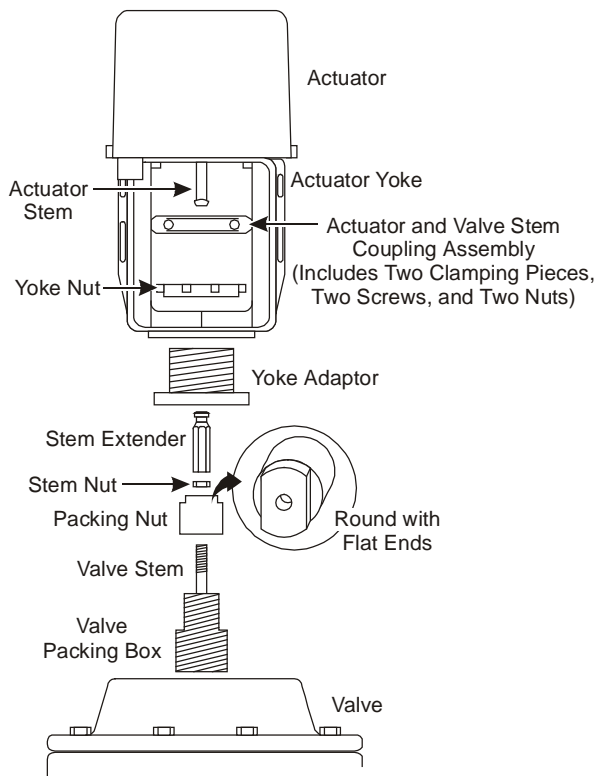

Figure 5: Exploded View of Actuator Mounting
To field mount a VA-3100 Series Electric Valve Actuator onto a VG2000 Series Cast Iron Flanged Globe Valve, refer to Figure 5 and proceed as follows:
18. If at least a 1/8 in. (3 mm) gap exists, proceed directly to the *Setup and Adjustments* section. If the gap is less than 1/8 in. (3 mm), refer to Figure 5 and proceed as follows: